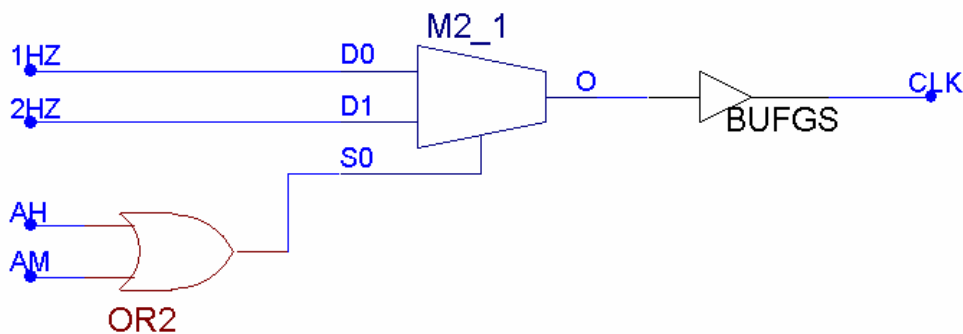

Figure 8.1: Clock Selection logic
This can be achieved as shown in Figure 8.1 using a multiplexer. A *multiplexer* (also called a *selector*) is a circuit that accepts a number of inputs and outputs one of them depending on some control inputs on the selection lines. In our case, we are using a 2-1 MUX (M2_1). This component (M2_1) accepts two data inputs, D0 and D1, and depending on the value of S0 (the selection line), one of the data lines will be output through the output line O. If $S0=0$, then $O=D0$. Otherwise $O=D1$.
9. Import the clock selection logic shown in Figure 8.1.